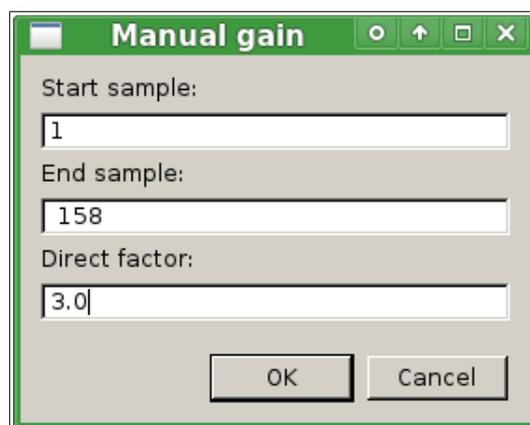

Figure 23. Manual gain settings.
**Window constant gain** simply multiplies the value of samples in selected rows by a direct factor. Sometimes it can be used to minimize the values from a certain depth (figures 23 and 24).